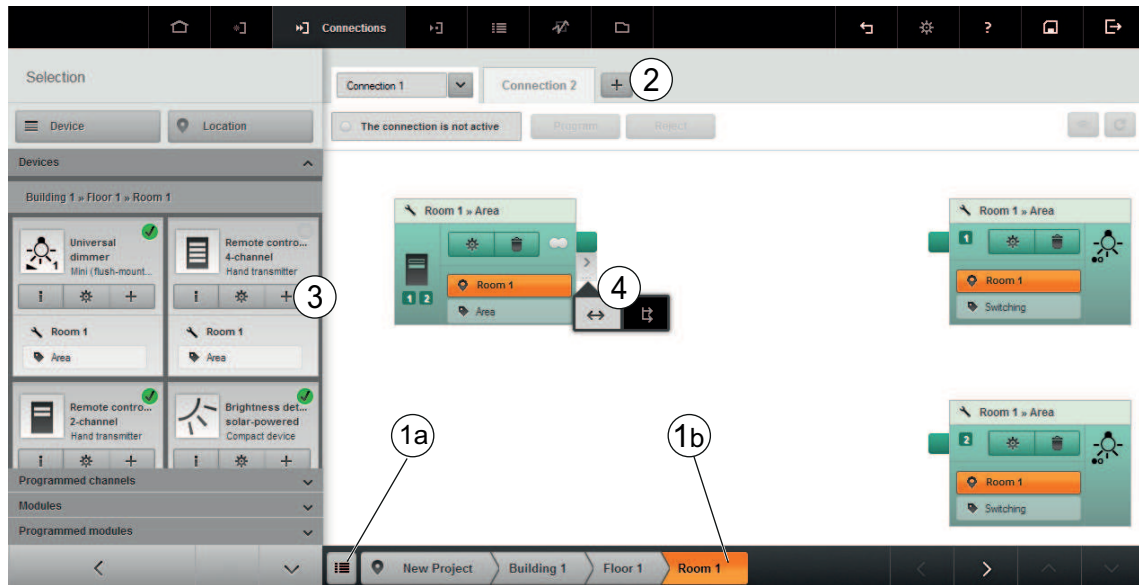

Figure 44: Creating a plan - First steps
- Select a location from the building overview (1a) or breadcrumb bar (1b) to assign the connection to a location (Figure 44).
- Select the **+** button next to the tab to create a new plan (2).